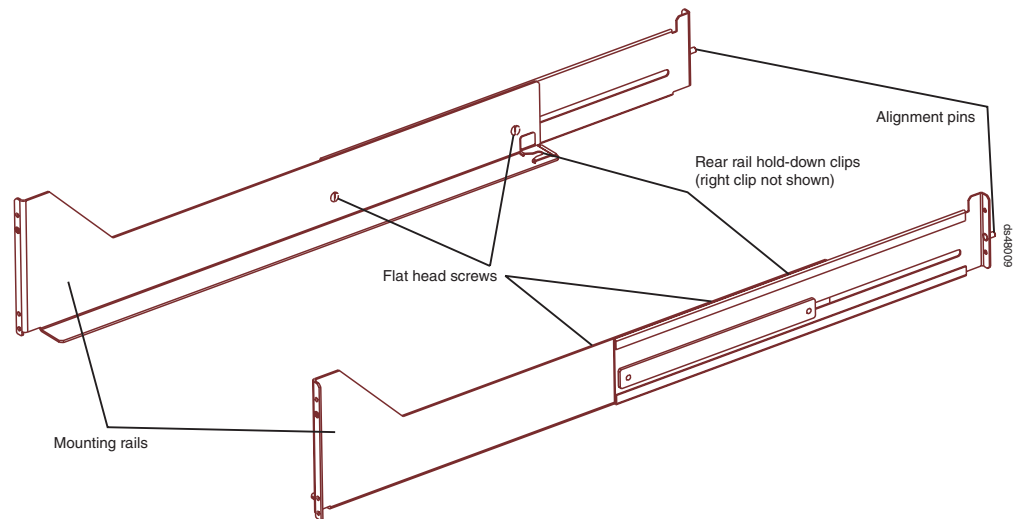

Figure 14. DS4800 support rail assembly
Figure 14 shows the support rail assembly for the DS4800.
Note: Refer to Figure 14 while performing these steps.
6. Starting with the left rail, use a medium flat-blade screwdriver to loosen the two flat-head rail adjustment screws. See Figure 14 on page 35.
Attention: When you slide the storage subsystem into the cabinet, verify that the back of the DS4800 Storage Subsystem is secured by the hold-down clips located at the back of each rail. With the M5 rail screws loosely threaded, you can make minor adjustments to the rails to ensure that the subsystem latches in the hold-down clips. The hold-down clips are shown in Figure 14 on page 35.